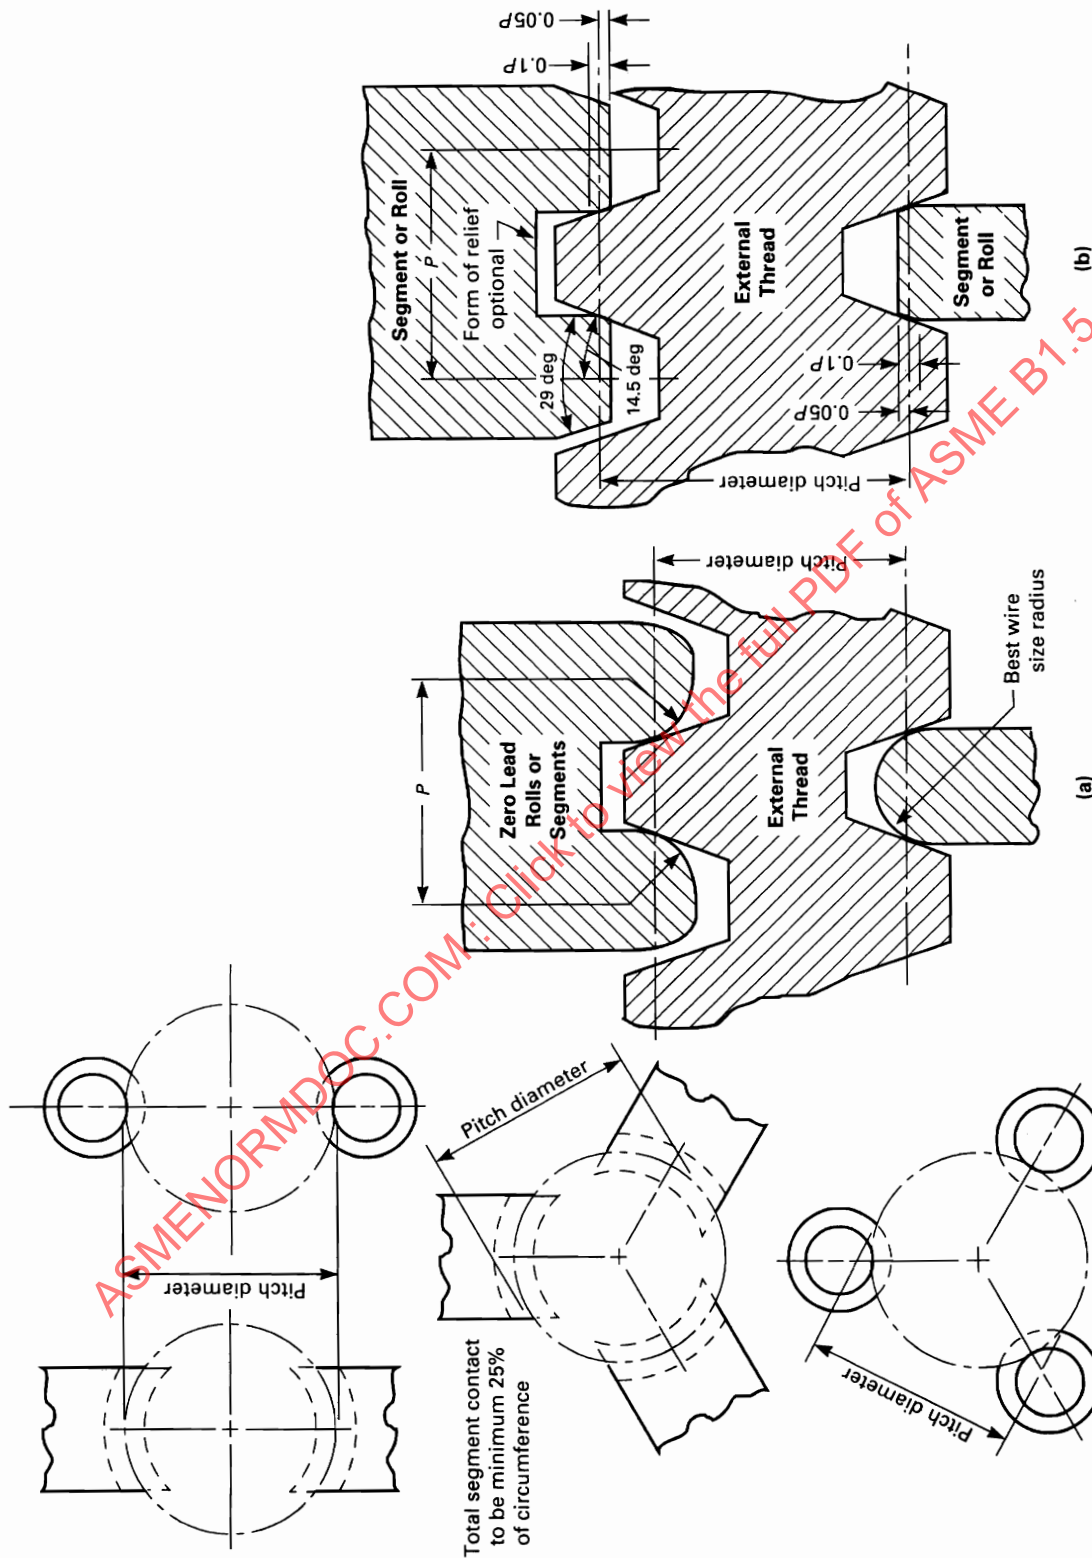
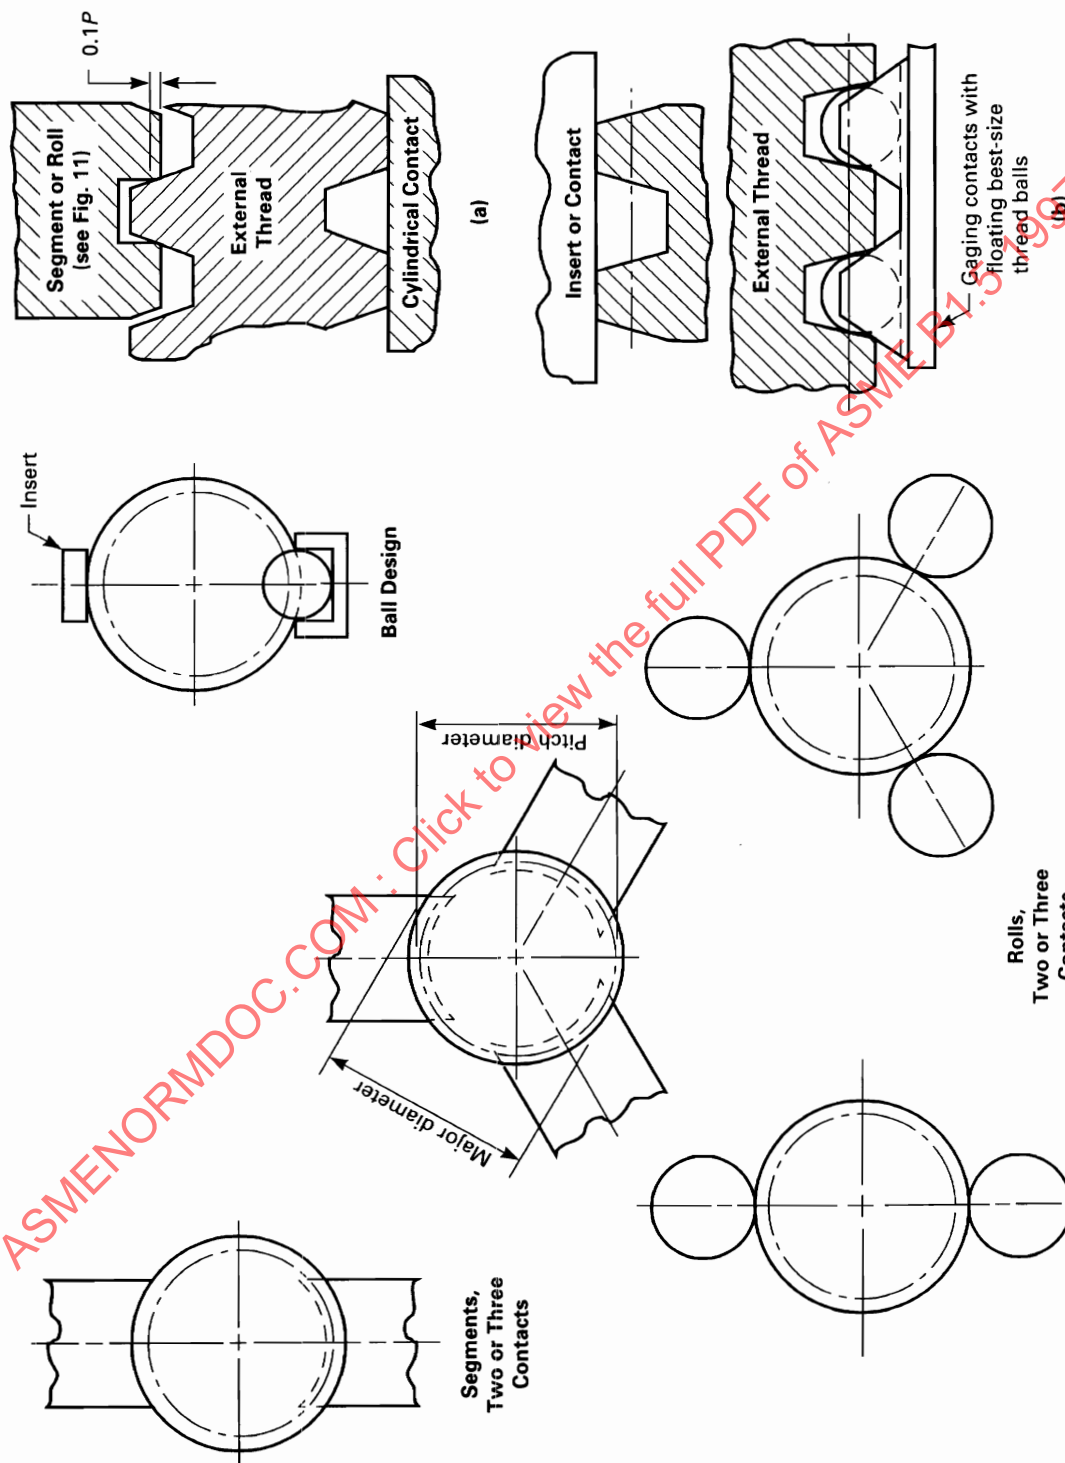

FIG. 11 INDICATING THREAD GAGES — MINIMUM-MATERIAL
FIG. 16 INDICATING THREAD GAGES — DIAMETER RUNOUT, MAJOR TO PITCH DIAMETER, FOR EXTERNAL THREAD
(c) *Thread Form.* The specifications on form of cone and vee segments, cone and vee rolls, and thread groove diameter balls are shown in Figs. 11 and 12.
(b) *Design.* Indicating gages have three contacts, one plain and two threaded at 120 deg, or two contacts, one plain and one threaded, at 180 deg, as shown in Fig. 16. The threaded segments or roll contacts are minimum-material pitch diameter type shown in Fig. 11. The ball type is shown in Fig. 16, sketch (b). The length of the plain contact is designed equal to the
(b) *Single-Element Angle Variation Differential Gaging.* The angle variation differential is the difference in indicator readings (Y-X) illustrated in Fig. 17. The two readings are taken in the same thread without rotating the external threaded product. The (Y) reading is made with the full-form single cone and vee indicating gage illustrated in Fig. 18 and the (X) reading is made with the minimum-material pitch diameter indicating gages illustrated in Fig. 11. The angle differential shall not exceed the specified percentage of pitch diameter tolerance. This type of gaging does not check whether the bisector of the flank angles is perpendicular to the thread axis.